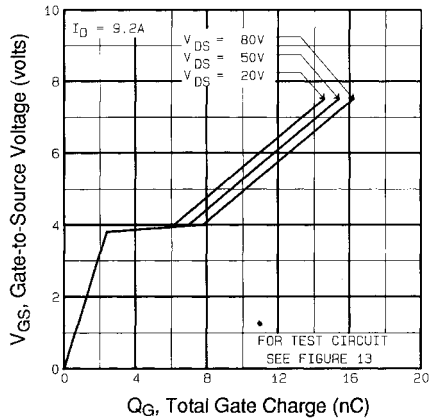

Fig 6. Typical Gate Charge Vs. Gate-to-Source Voltage
| Q _{gd} | Gate-to-Drain ("Miller") Charge | — | — | 7.1 | | V _{GS} =5.0V See Fig. 6 and 13 ④ |